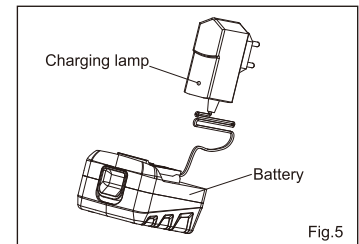

Fig.5
1.3 Plug the charger into the power source. (Fig 5)